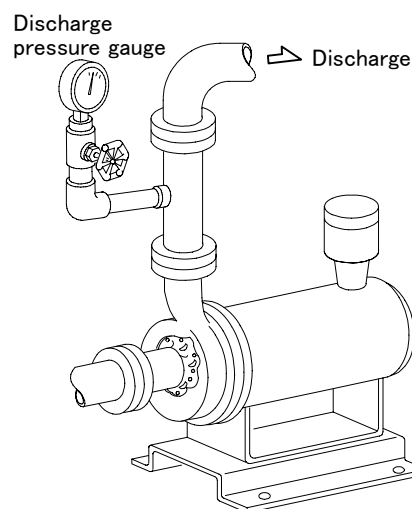

Fig.3-11 Confirmation of Operating Conditions
- ① Discharge flow and discharge pressure are as specified. (Refer to Fig.3-11.)
- ② There is no abnormal sound.
- ③ The pump produces no cavitation.